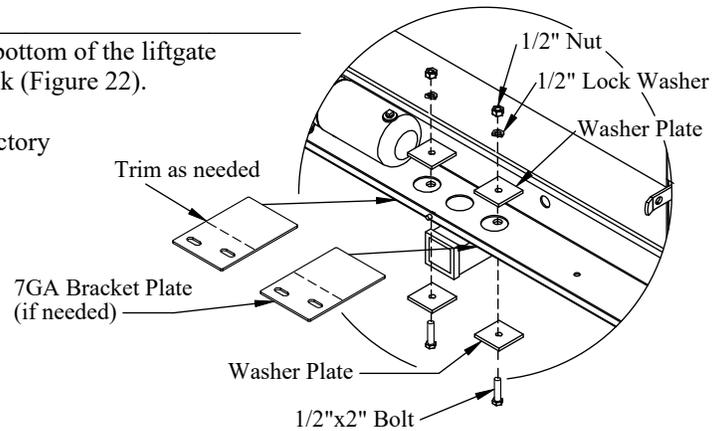

Figure 22: Lower bracket support (Class 5 hitch).
1. **Assemble** the supplied hardware through the outer two holes in the bottom of the liftgate mainframe and the two holes in the factory hitch plate on the truck (Figure 22).